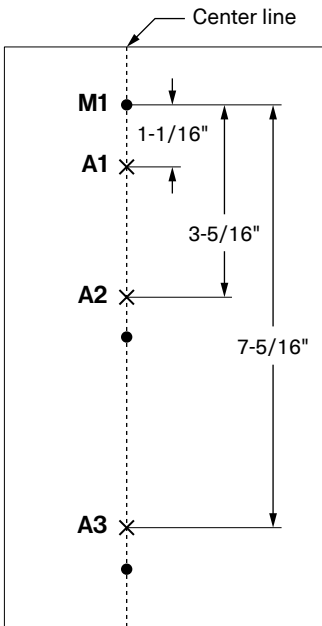

Fig 2b - Adjustment hole locations
- 2.3 Starting from M1, mark three adjustment holes 1-1/16" (27mm), 3-5/16" (84.1mm), and 7-5/16" (185.7mm) backwards along the center line. Label them A1, A2, and A3 [Fig 2b].